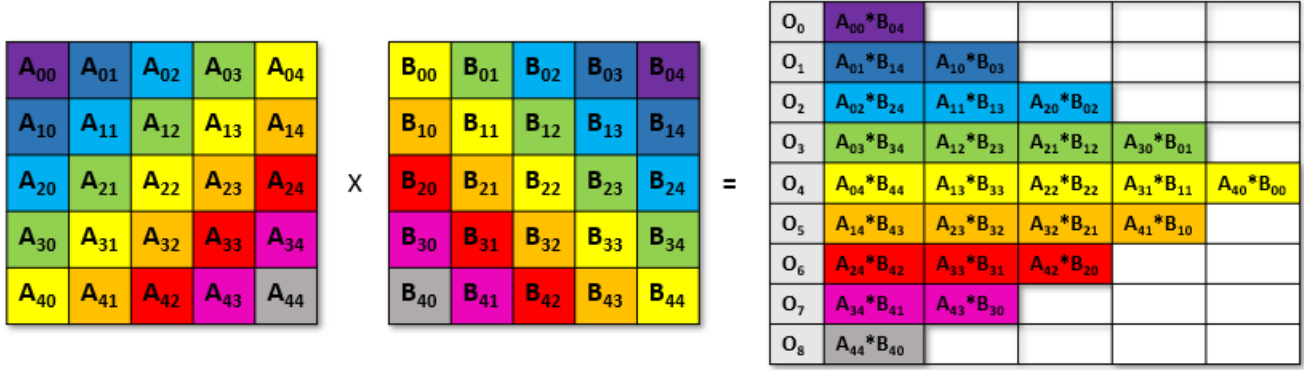

Figure 6: *Performing DMM diagonally*
- The second approach to parallelize *DMM* is inspired by the very first reference implementation. We can use  $2 * N - 1$  threads, one for every diagonal in the matrix. Each thread is responsible for computing one single value in the *Output* array by multiplying the appropriate diagonals. *Figure 6* illustrates the same.